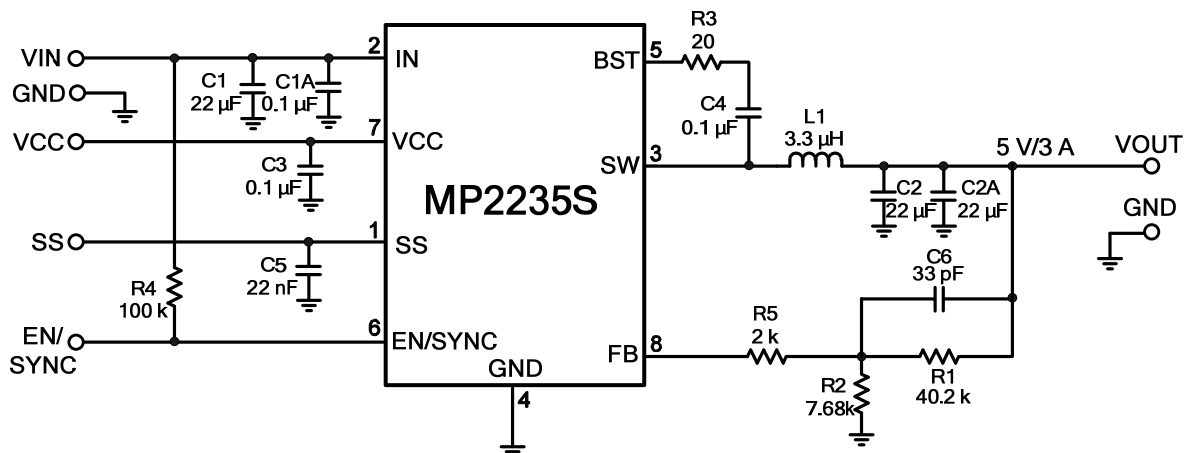

Figure 10—12VIN, 5 V/3 A output
- 9) The recommended layout is based on Figure 10 on page 17.